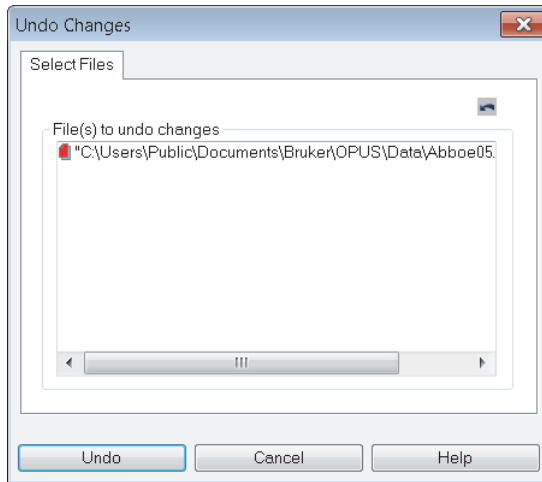

Figure 4.12: Undo baseline correction
3. On the dialog that opens, click the *Undo* button (figure 4.12).